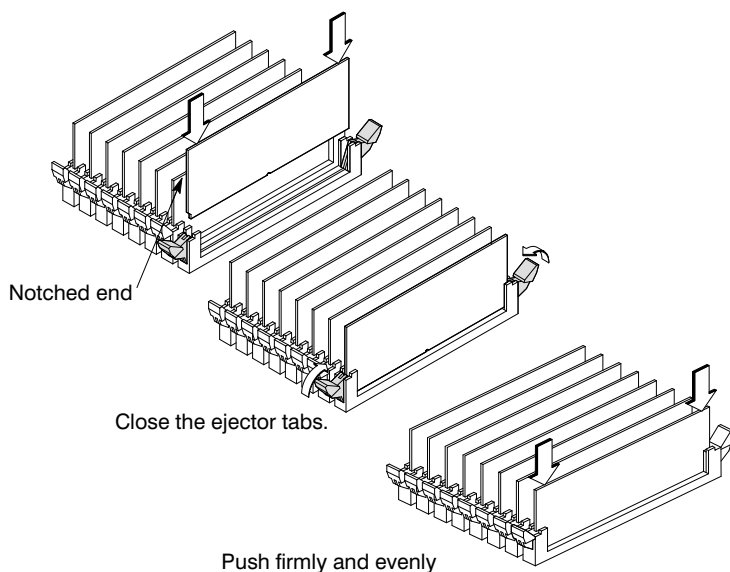
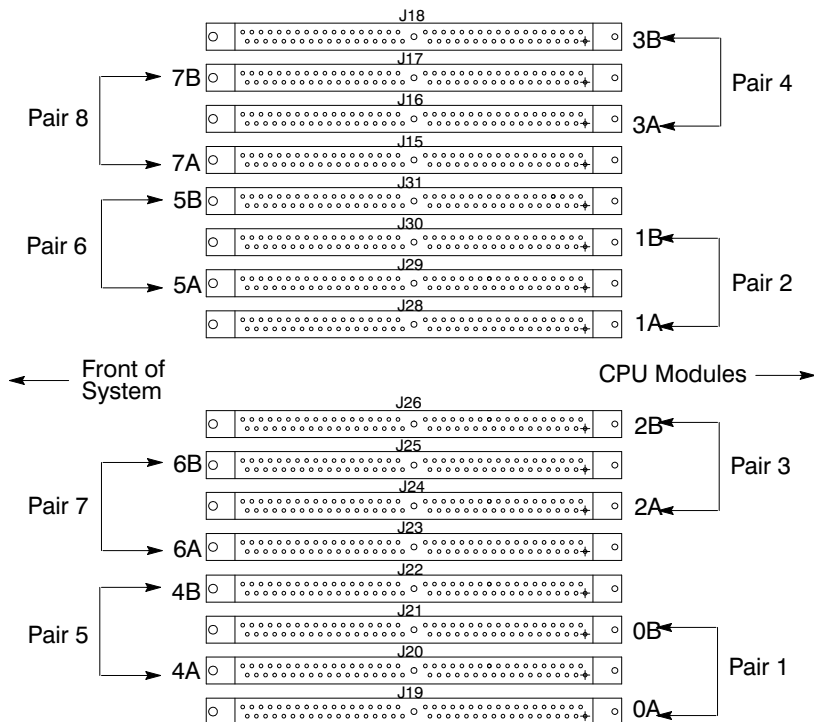

Figure 5. Installing Memory DIMMs
Figure 6.J280 Memory DIMM Slot Guide
1. To install a memory DIMM, open the ejector tab and line the DIMM up with the guides as shown in Figure 5, making sure to put the notched end toward the ejector handle .**READ NOTICE** below and follow slot guide shown in figure 6.
NOTICE: Install memory DIMMs in the J280 DIMM slots as pairs (DIMMs must be same size to make a pair). Load DIMMs in ascending pair order (e.g. pair 1 then pair 2). Use figure 6 as a guide.